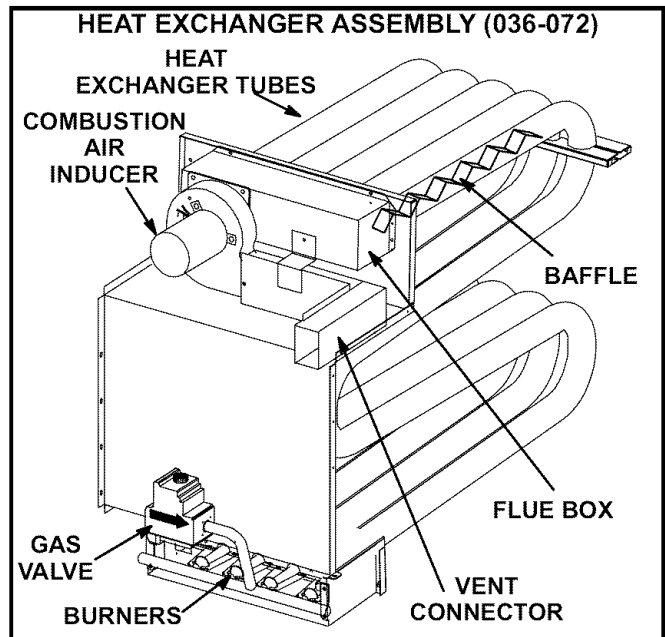

FIGURE 6
Annually, before heating season, inspect the combustion air louvers, vent cap, heat exchanger, burners and combustion air inducer for corrosion, deterioration or deposits of debris. Remove any obstructions or blockage. See figures 6 and 7.
- 3- Remove and retain the screws securing the combustion air inducer to the flue box. Remove and retain two screws from the bracket supporting the vent connector. See figures 6 and 7.